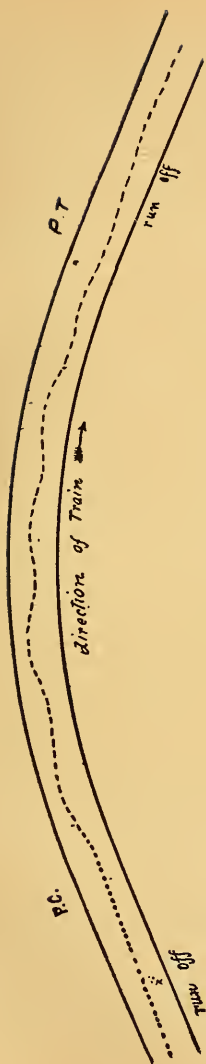

FIG. 38.
10. The length of run-off or easement at end of curves is another question for which there is no fixed rule. Some years ago the length of run-off was variously calculated at from 40 to 60 feet per inch elevation of curve. Then the curve was of uniform degree from point of curve at one end to point of tangent at the other end of curve, and the run-off was on straight track, and it must be acknowledged that some roads still adhere to this practice. But it is wrong in principle because it violates the rule that rails on straight track must be level. According to this plan a curve having 6-inch elevation would require a run-off about 300 feet long and, of course, the portion near the curve having from 3 to 6 inches elevation, could not be kept in line because of excessive weight on lower rail; and as the train approached the curve the weight on the lower rail gradually increased until the point of curve was reached, when it suddenly lurched toward the other rail. It is impossible to avoid this swing at the point of curve without compounding the end of curve, because even if all the weight of the train was concentrated on and balanced over the lower rail the sudden transition from tangent to curve would still cause the weight to swing toward the outer rail and the higher the degree of curve the greater and more sudden would be the shock. If a plumb line be suspended from the roof of a car, so that the weight hangs over the center line of track, the weight will show the variation between center of gravity and center of track, as is shown in Fig. 38 in ground plan.